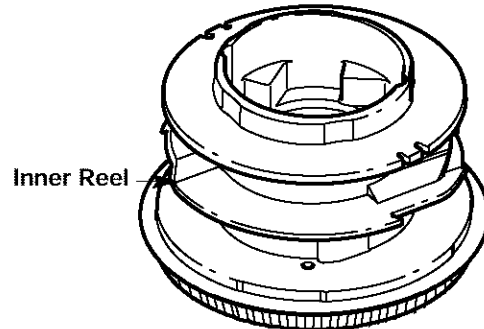

Fig. 29
4. Remove any existing line from the inner reel before cleaning. Remove any debris or grass from the knob, spring, inner reel and foam seal. Wash the inner reel with warm soapy water (Fig. 29).